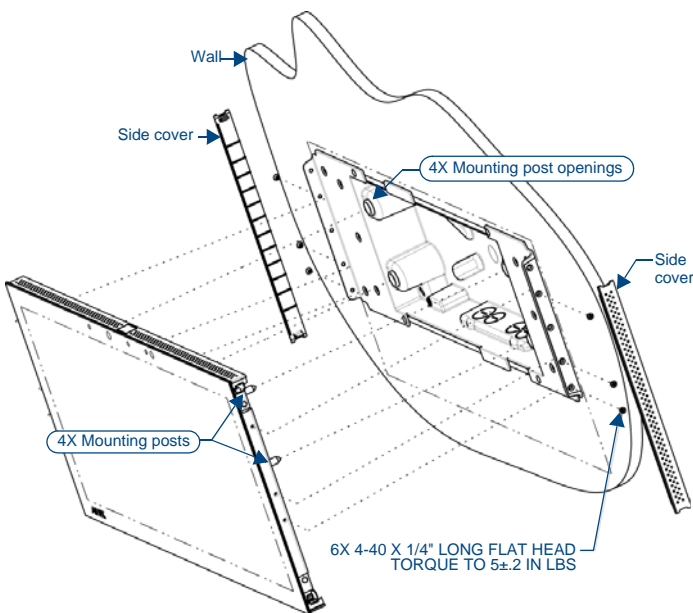

FIG. 5 MXD-2000XL-PAN installation (Landscape)
10. Insert the four temporary mounting posts of the panel into the openings on the Backbox and slide the panel onto the Backbox. This will temporarily hold the panel during the rest of the installation (FIG. 5).
11. Use the six provided screws, three at each end, to secure the touch panel to the Backbox (FIG. 5). Use only the provided screws, as other screws may damage the touch panel.